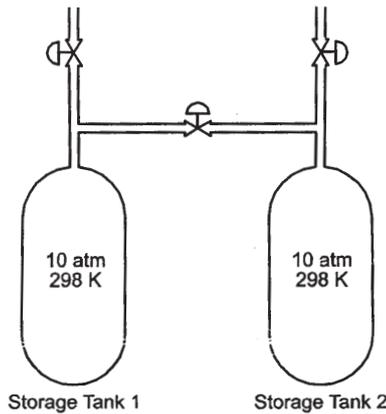

Figure 1: Storage tanks containing Natural gas
- b) Two large storage tanks containing natural gas mixtures, each maintained at a pressure of 10 atmosphere and 298 K as shown in Figure 1. They are connected by a pipeline 1 inch in diameter and 5 feet. In one tank, it contains mainly H₂S separate from the natural gas : 90% H₂S and 10% CH₄ by volume. The second tank contains clean natural gas : 100% CH₄. Accidentally, the valve is left open by an operator. At the initial tank conditions, the diffusivity between H₂S and CH₄ is $2.02 \times 10^{-6} \text{ m}^2/\text{s}$. Assume the mixtures behave like ideal gases. [10]